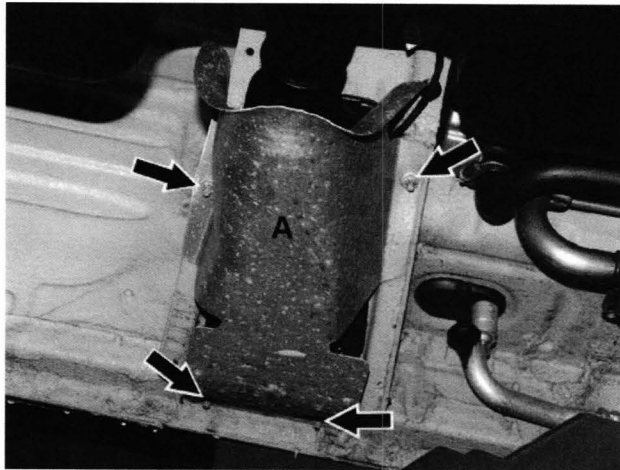

Figure 2
- Protective shield nuts (arrows, Figure 2) for filler neck.